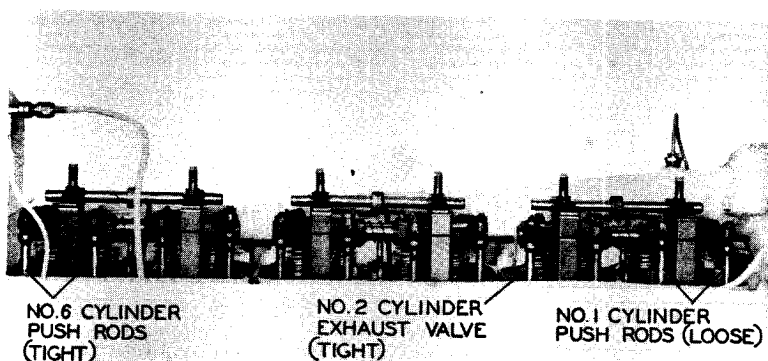

Figure 108. Checking Valve Push Rods
B. When Number 1 piston is at top dead center on the compression stroke, the push rods will be loose on Number 1 cylinder. The push rod for the exhaust valve on Number 2 cylinder will be tight. Refer to Figure 108. If the reverse is true, crank the engine one complete revolution.